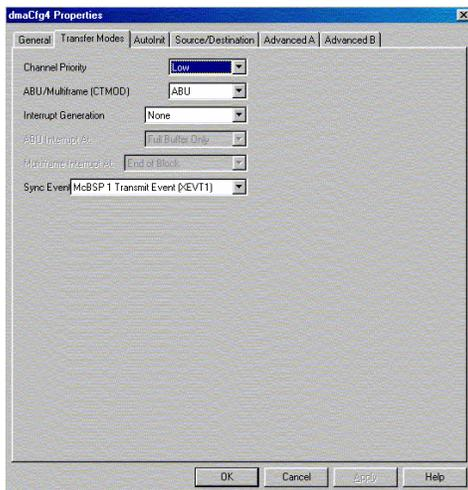

Figure 17. DMA dmaCfg4 Transfer Mode Tab
3. In the *Transfer Modes* tab, set options as shown in Figure 17. Select *Auto Buffer Mode* and synchronize to McBSP transmit event.